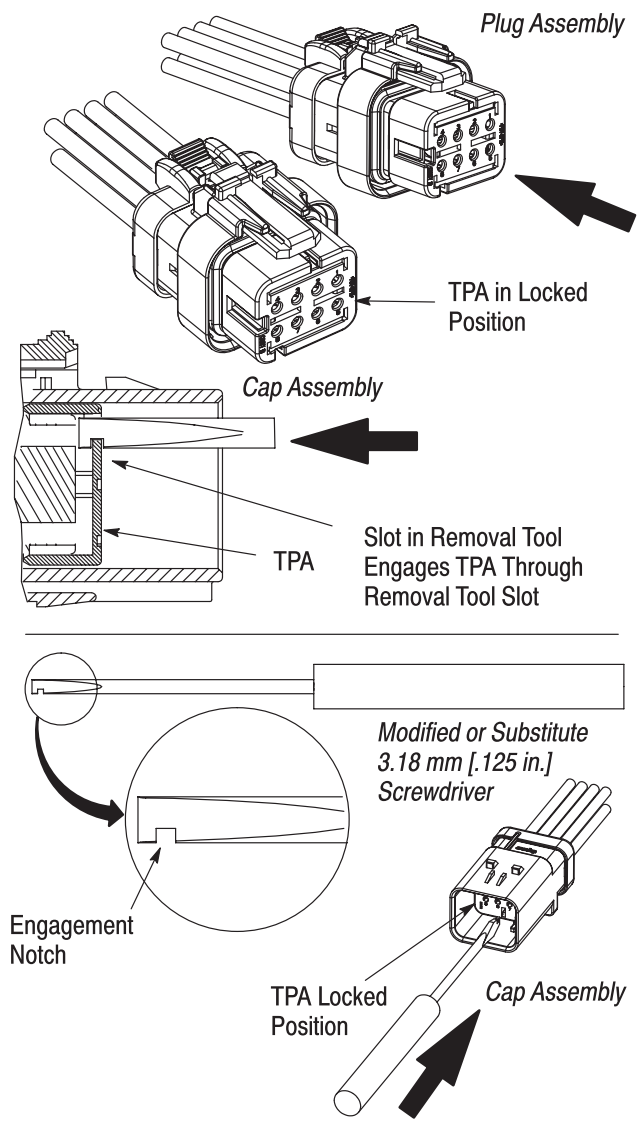

Figure 5
3. When all of the required contacts have been inserted, complete the assembly by pushing the TPA into the fully locked position. See Figure 5.